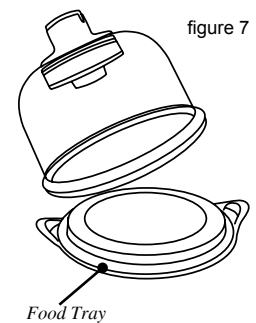

figure 7
8. Place the Dome onto the Food Tray (figure 7).